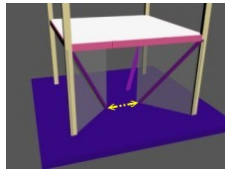
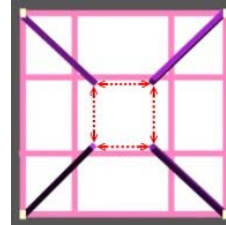

Figure 11
Figure 12
4.8.1 Materials inside the building, when viewed from vertical projection, need to have an opening for access, as in Figure 11. The dimensions marked by red arrows in Figure 12 have to each be at least 5 cm.